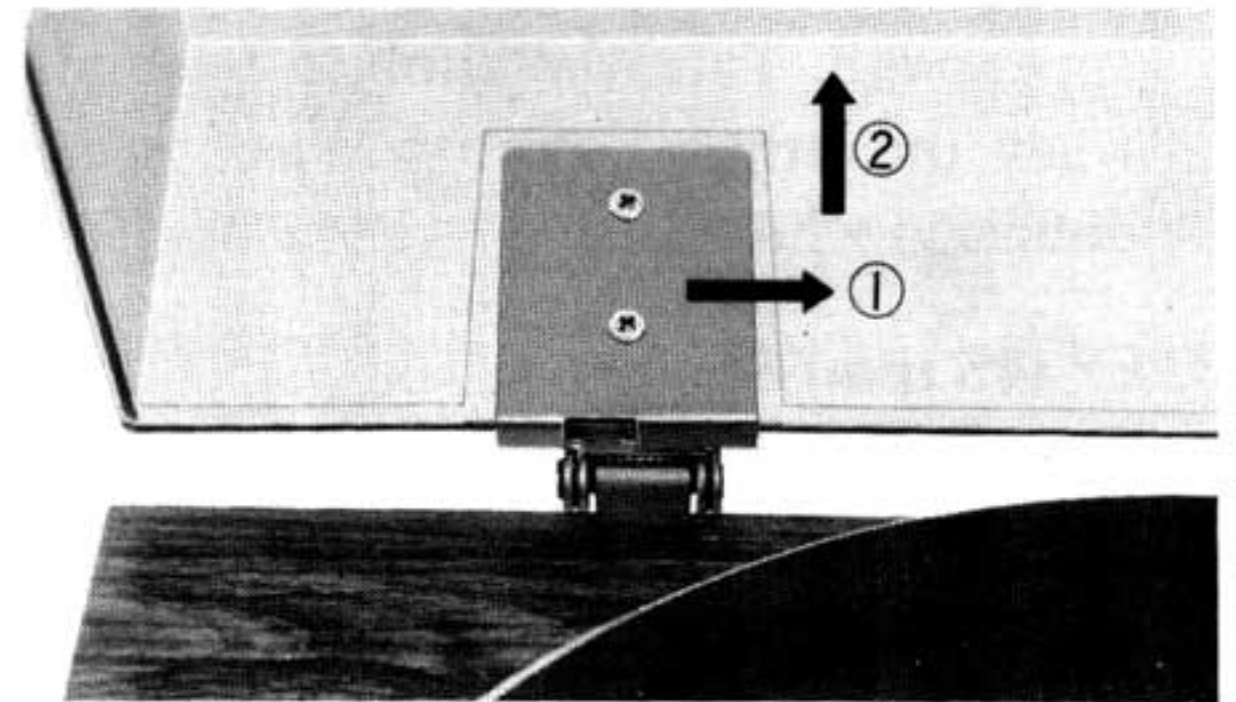

Fig. 9
Slide the cover carefully in the direction of the arrow ① as shown in Fig. 9, then pull it in the direction of the arrow ②.